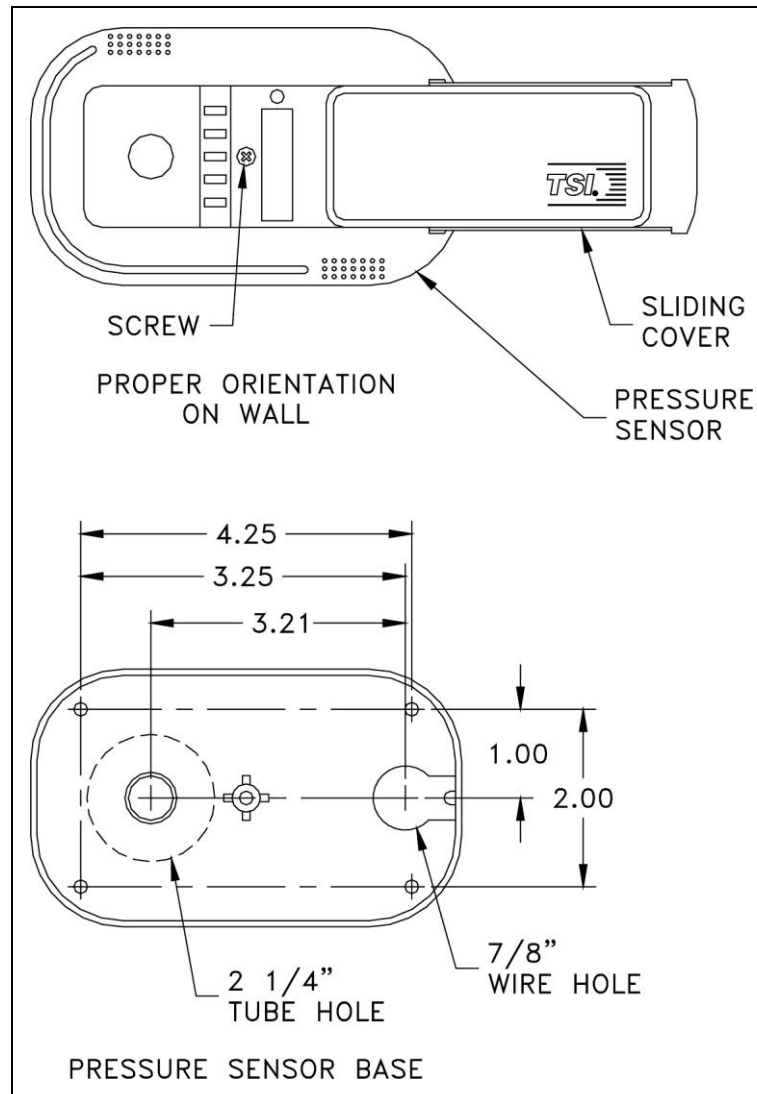

Figure 2: Pressure Sensor Orientation and Mounting Template
WARNING: 800243 pressure sensor **must** be mounted through the wall between the controlled space (isolation room) and referenced space (hallway), exactly as shown in Figure 2 and 3.
2. The pressure sensor must be orientated on the wall as shown in Figure 2. Looking at the mounted sensor, sensor hole is on the left (2 1/4") and wire hole is on the right.
4. Drill a 7/8-inch hole on the side of the wall that the pressure sensor will be mounted. This hole is for the six-conductor sensor cable. Refer to Figure 2 for a hole mounting pattern.
5. Slide sensor cover to right and remove screw that holds the sensor base to the pressure sensor (Figure 2). Remove pressure sensor and store in a safe place.